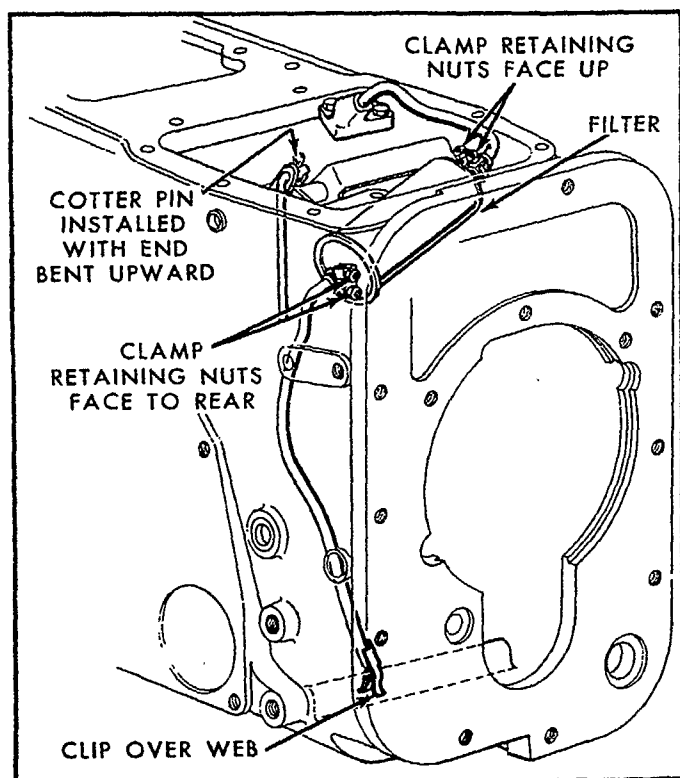

Figure 35
1. Assemble the filter inlet tube and flange to the inlet end of the filter can marked "IN" with the clamp, as shown in Figure 35. Make certain that the nuts of the retaining clamp are facing up and are loose enough to rotate the tube on the can.